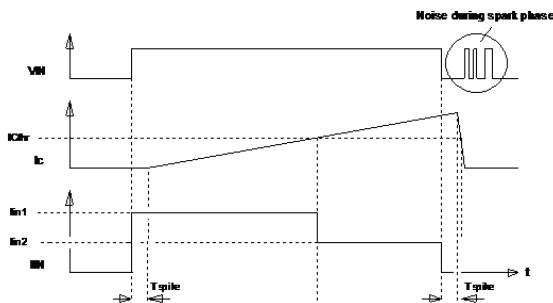

Figure 4: Bidirectional IN/IFL Diagnostic Pin
- The IN/IFL pin sinks constantly a current of IIN1. When the input voltage is above VINH and the collector current exceeds the IcTHR threshold, the current flag is set by switching a current sink at the bidirectional IN/IFL pin to IIN2 (see Fig.4)